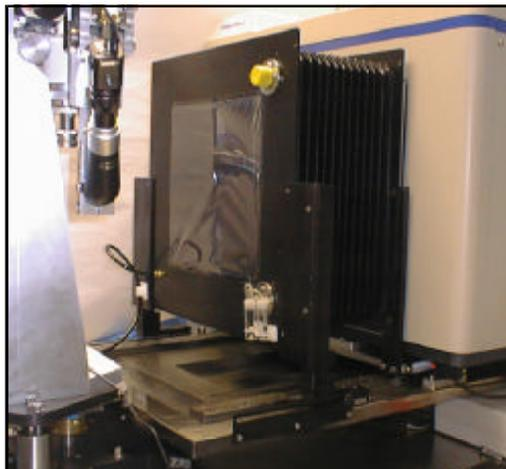

Figure 2-31. Helium beam path assembly completed.
- 5) After the helium beam path is extended, mount the remaining end face on the support plates and secure with the retaining screws, Figure 2-31.